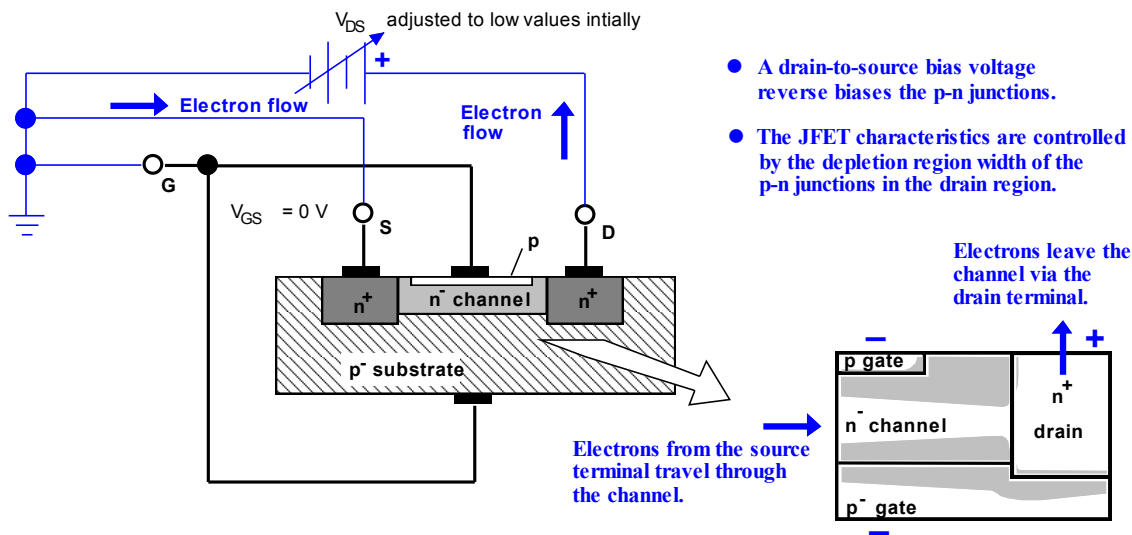
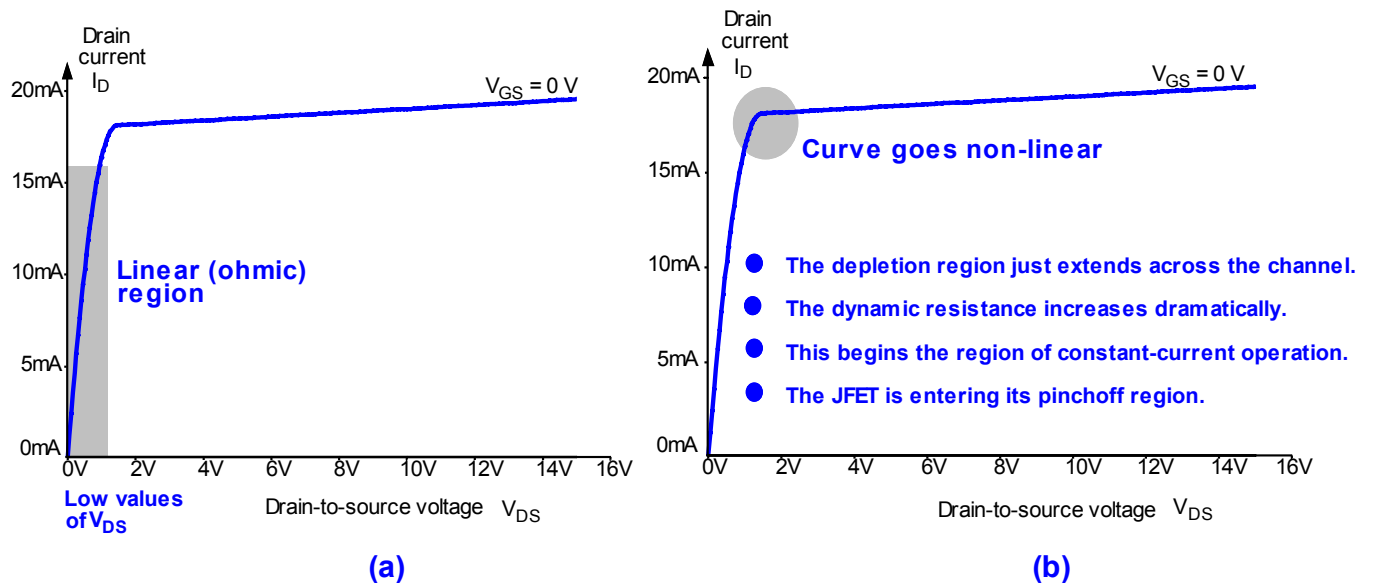

Figure 6-6
Figure 6-9.
In Fig. 6-6, we see the source and the gate terminals have been tied to ground. An adjustable voltage source has been connected between the drain and ground. Its value will determine the drain-to-source voltage V_{DS} . Because the gate terminal has been tied directly to ground, V_{GS} will be zero volts.
Since the n^+ drain is positive and the (*p*-type) gate regions are tied to ground, the *p-n* junctions in the drain region are reverse-biased. The drain region in Fig. 6-6 has been enlarged to indicate this. For small to moderate values of V_{DS} , the reverse bias causes the depletion regions to widen as shown in Fig. 6-6. With the biasing shown in Fig. 6-6, electrons will enter the channel through the source terminal (S). The electrons will then flow through the channel and leave the JFET via the drain terminal (D). This too has been noted in Fig. 6-6.
Figure 6-9 depicts a JFET's *drain characteristic curve*. The drain current I_D is placed on the vertical axis and the drain-to-source voltage V_{DS} lies on the horizontal axis. The gate-to-source voltage is the parameter. In this case, V_{GS} is zero [refer to Fig. 6-6]. At low values of V_{DS} , the V - I curve is linear as indicated in Fig. 6-9(a). This is called the **ohmic region**. As V_{DS} is increased, the depletion regions continue to widen. Ultimately, the depletion regions begin to touch. At this point, the V - I curve becomes non-linear, as shown in Fig. 6-9(b). Specifically, the dynamic resistance of the channel begins to increase. (This means the V - I curve is becoming *horizontal*.) We also see the JFET is entering its **constant-current region of operation**. This is called **pinch-off**. *A JFET in pinch-off is in its active (amplifying) region of operation.*